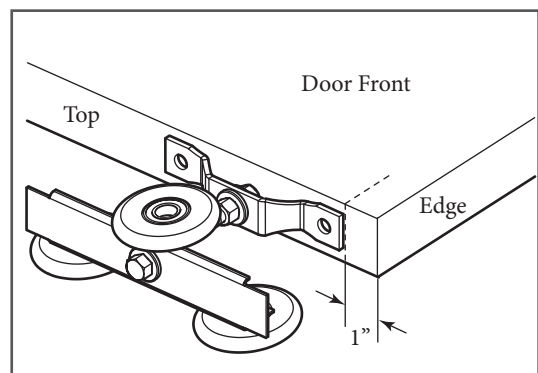

Figure 8
9. Lay the door with the front facing up on a flat, level surface. Measure 1" from the edge of the door. Mark with a pencil (Figure 8).